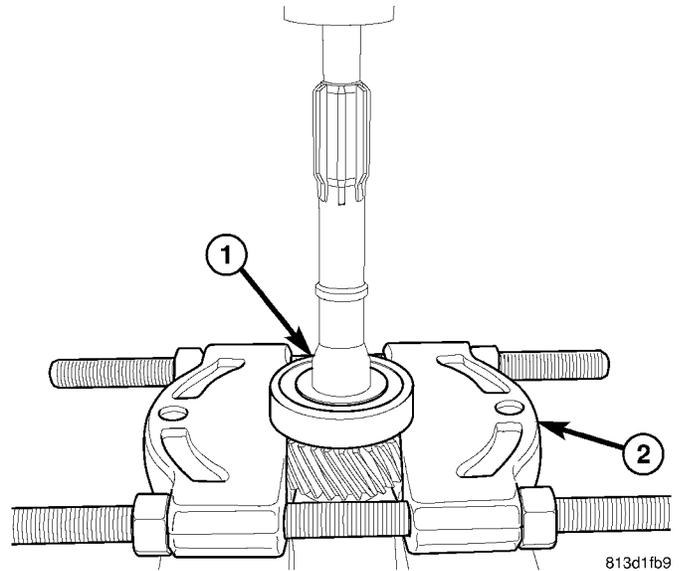

Fig. 43 INPUT SHAFT BEARING REMOVAL
(2) Remove input shaft bearing (1) (Fig. 43) with Splitter 1130 (2) and press. Place splitter around bearing retainer lip.